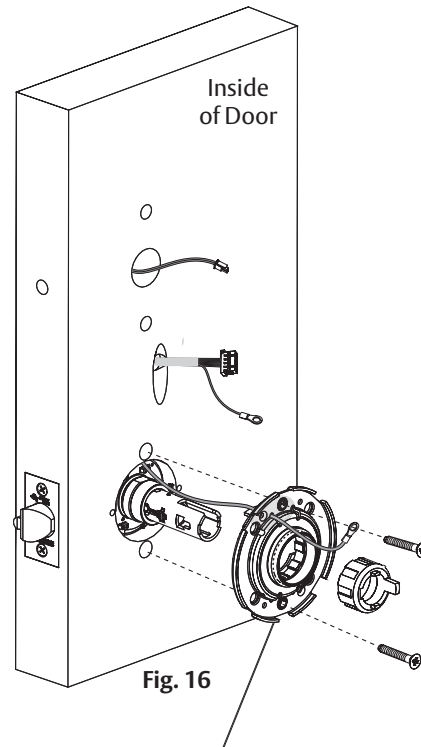

Fig. 16
- b. Position ground lug between (top) #10-32 x 1-1/4" through-bolt and rose assembly. (Fig. 16)